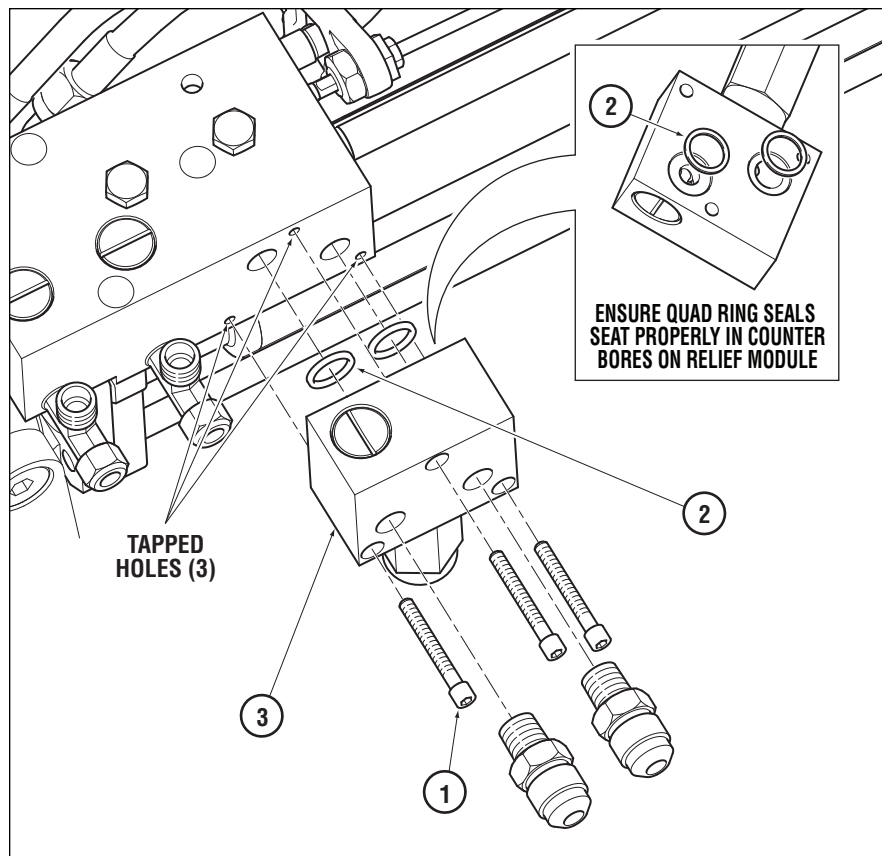

Figure 5.
- Remove steering cylinder from its packaging and inspect servo valve block. The cylinder MUST have three tapped holes on the face of the servo valve block as shown in figure 5 below. If the servo valve block does NOT have these tapped holes contact SeaStar Solutions Technical Support.
- Install both quad rings (items #2) into relief valve module as shown in Figure 5.
- Insert three (3) socket head cap screws (items #1) into relief valve module (item #3) and fasten to front face of cylinder servo valve as shown in Figure 5. Torque mounting bolts to 40 in.lb.